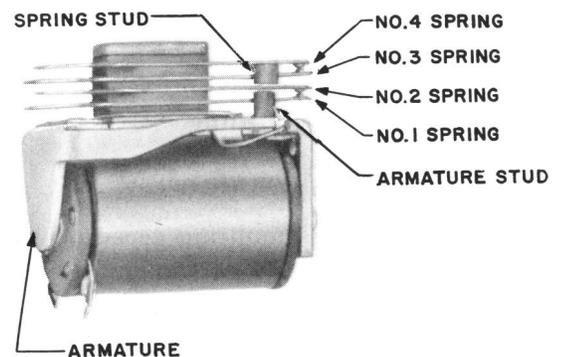

Fig. 3 - General View of Relay
**2.06 Contact Pressure:** Fig. 3 — The pressure between normally closed contacts shall be
**2.07 Stud Gap:** Fig. 3 — With the relay in the nonoperated position, the clearance between the armature stud and the No. 2 spring, and between the stud on the No. 4 spring and the No. 2 spring shall be